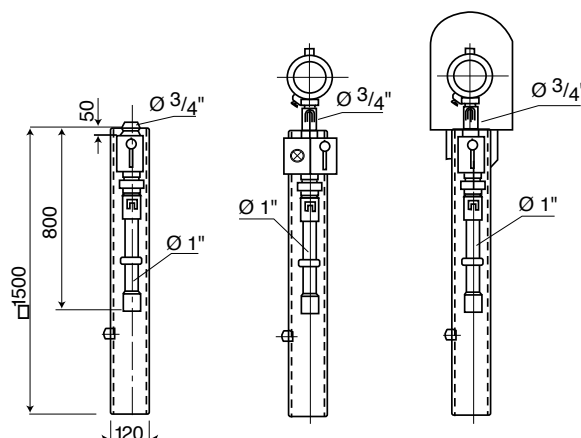
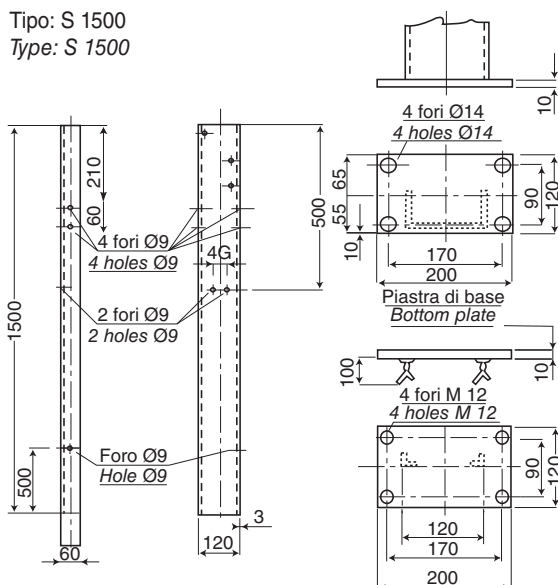

Fig. 1: Tipici complessi di comando motori
Fig. 2: Colonnina in lamiera zincata da 3 mm.
*The control stations in the field are usually mounted on stands of various manufacture: steel pipes, plates or structures are widely used. Very often the stands themselves are fabricated on site to better suit the specific requirements of the installation. There is anyway a general trend toward the adoption of the types standardized by the main engineering companies such as the ones shown on Figure 1. NUOVA ASP has therefore included in its catalogue the stand shown on Figure 2 and the hood shown on Figure 3 which are very widely used. On request other solutions.*